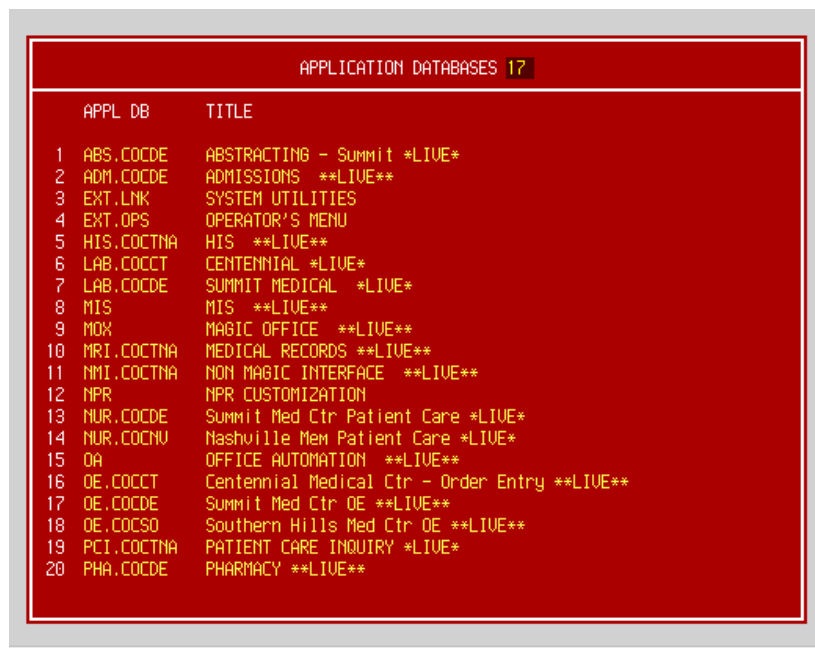

Figure 6: Application Databases
- Press [Enter] to go back to the main menu Application Databases. Select option 17, [Summit Med. Ctr OE]. See Figure 6.